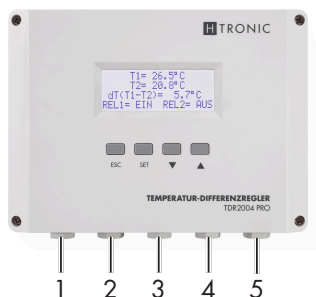

Figure 4 Socket assignment
9. Lay the power supply cable through the self-sealing grommets (Figure 4, item 5).
12. Lay the cable of temperature sensor 1 through the self-sealing grommets of sensor 1 (Figure 4, item 1).
16. Lay the cable of temperature sensor 2 through the self-sealing grommet of sensor 2(Figure 4, item 2).
20. Lay the cable from circulating pump / bypass valve 1 through the self-sealing grommet of relay 1 (Figure 4, item 3).
26. Lay the cable from circulating pump / bypass valve 2 through the self-sealing grommet of relay 2 (Figure 4, item 4).